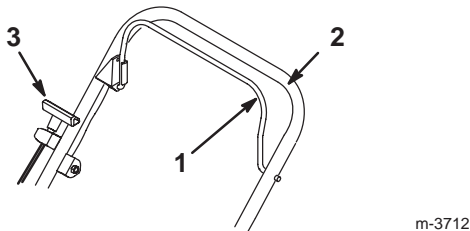

Figure 6
The starter handle and the blade control bail are on the upper handle as shown in Figure 6.
3. Hold the blade control bail against the upper handle (Fig. 6).
4. Pull the starter handle lightly until you feel resistance, then pull it sharply (Fig. 6). Allow the rope return to the handle slowly.